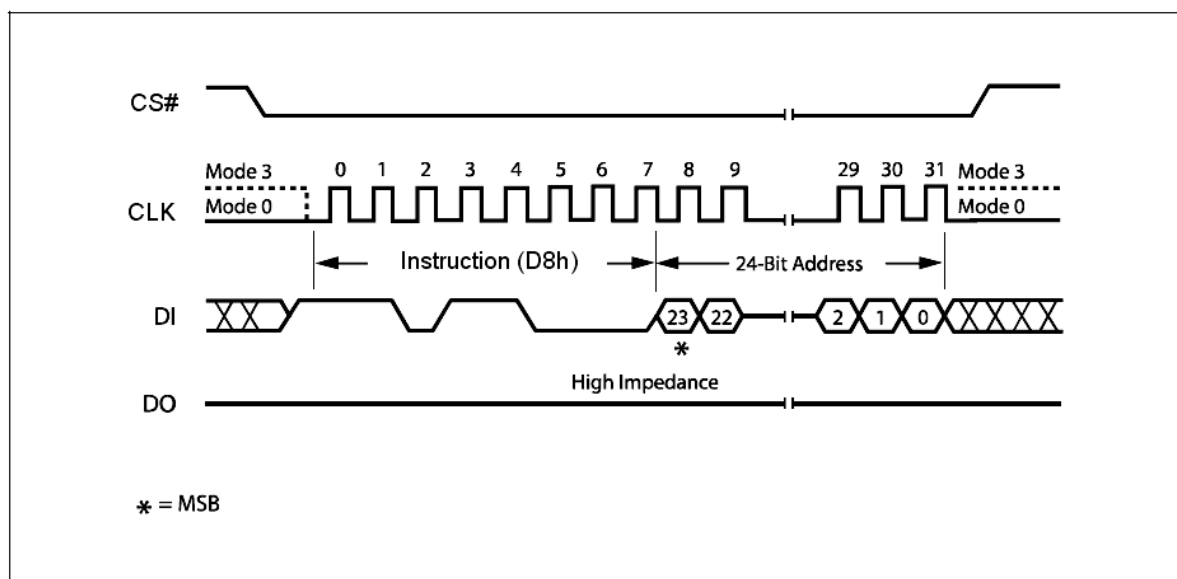

Figure 23. 64KB Block Erase Instruction Sequence Diagram
The instruction sequence is shown in Figure 23. Chip Select (CS#) must be driven High after the eighth bit of the last address byte has been latched in, otherwise the Block Erase (BE) instruction is not executed. As soon as Chip Select (CS#) is driven High, the self-timed Block Erase cycle (whose duration is t_{BE}) is initiated. While the Block Erase cycle is in progress, the Status Register may be read to check the value of the Write In Progress (WIP) bit. The Write In Progress (WIP) bit is 1 during the self-timed Block Erase cycle, and is 0 when it is completed. At some unspecified time before the cycle is completed, the Write Enable Latch (WEL) bit is reset.